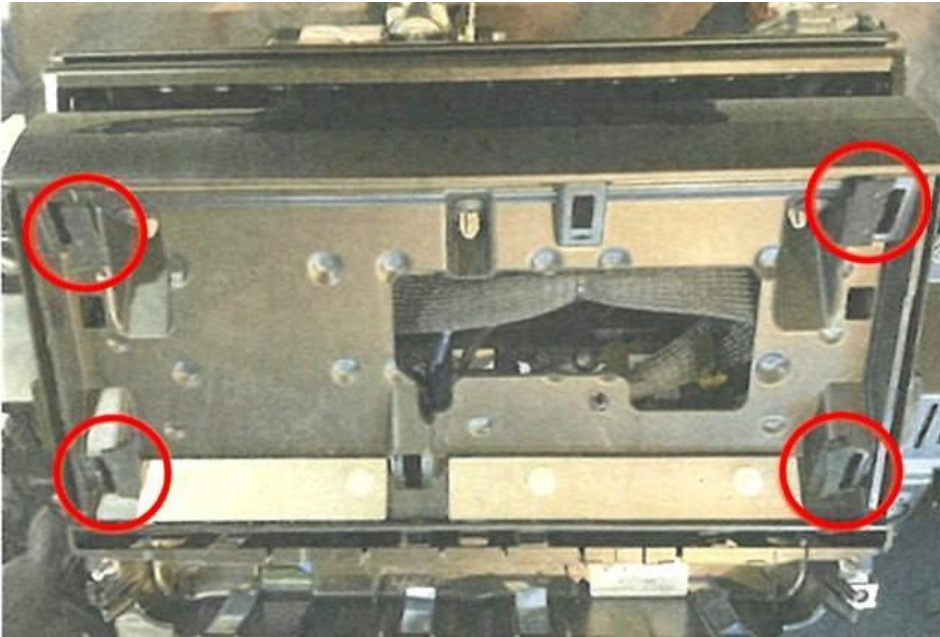

Figure 3
5) Remove All anti creak tape from the (x4) locations shown for the Display clocks and dials fascia and Veneer fascia) as shown in Figure 3